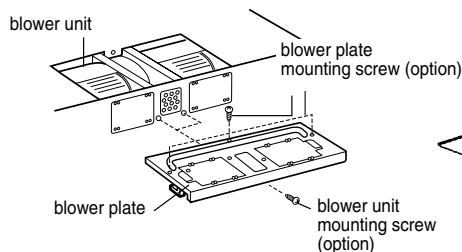

Figure 22
7. Reattach blower plate to microwave oven. Attach with the one blower unit mounting screw and then the one or two blower plate mounting screw(s). See Figure 22.